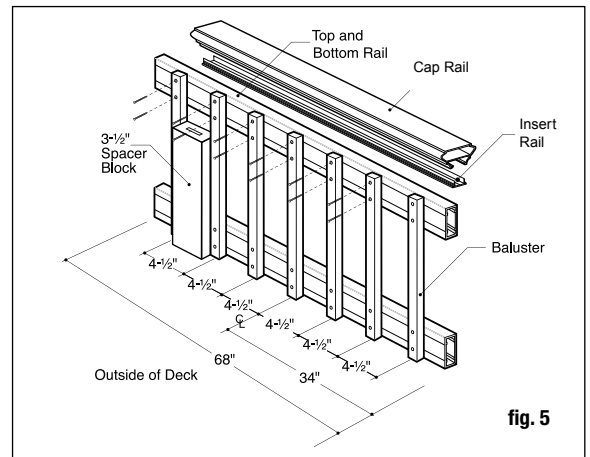

fig. 5
**Glass balusters** Both top and bottom rails will be installed with the pre-drilled holes facing down to prevent water from collecting in the rail. 7-1/2" on-center and equal spacing for the end spacing. Start by finding the center of the rail. Rail length  $\div 2 =$  center of rail. Start the first glass baluster on-center of the center line. Mark every 7-1/2" from the center line to each end. This will leave the end spacing 4" or less on both ends and require 1.5 glass balusters per foot. If installing using connectors, attach connectors to both rails on marked locations. Tip: If face-mounting to rail, use a piece of 2x4 (3-1/2" actual) as a spacer block for the spacing between balusters (fig. 5).
**Step 12 Traditional, Baroque, Arc balusters and Face-Mount Glass balusters** Start the first baluster on-center of the center of the rail and work out to each end. Using the baluster as a guide, drill 9/64" holes in the rails at each baluster location. Use a 2x4 as a spacer block to space the next baluster. Working toward the ends, drill and attach each baluster with the screws provided (fig. 5).